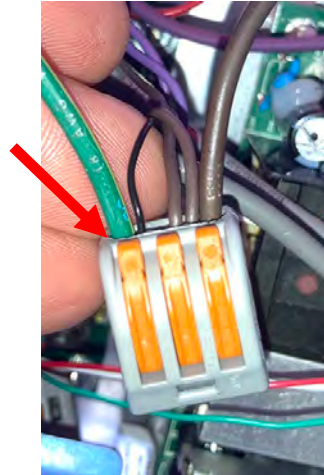

Figure 12
13. Insert the green ground wire into the end of the Wago snap connector with the large BROWN wire from the power supply and lock the connector. Tug gently on the wires to ensure the wires are secured into the connector (see Figure 12).